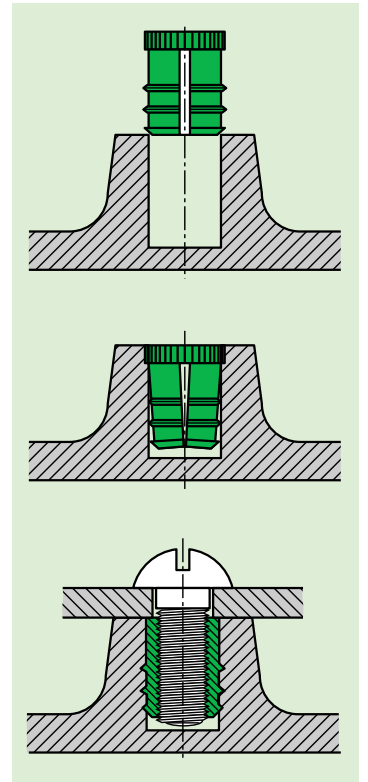

Fig. 19
1. The B-Lok[®] is pressed into the receiving hole, during which process the segments bend inwards (fig. 19).
2. When inserting the screw, the segments resume their original shape, in which process the external profile becomes anchored in the hole wall. The residual tension acts to lock the screw in place (fig. 19).